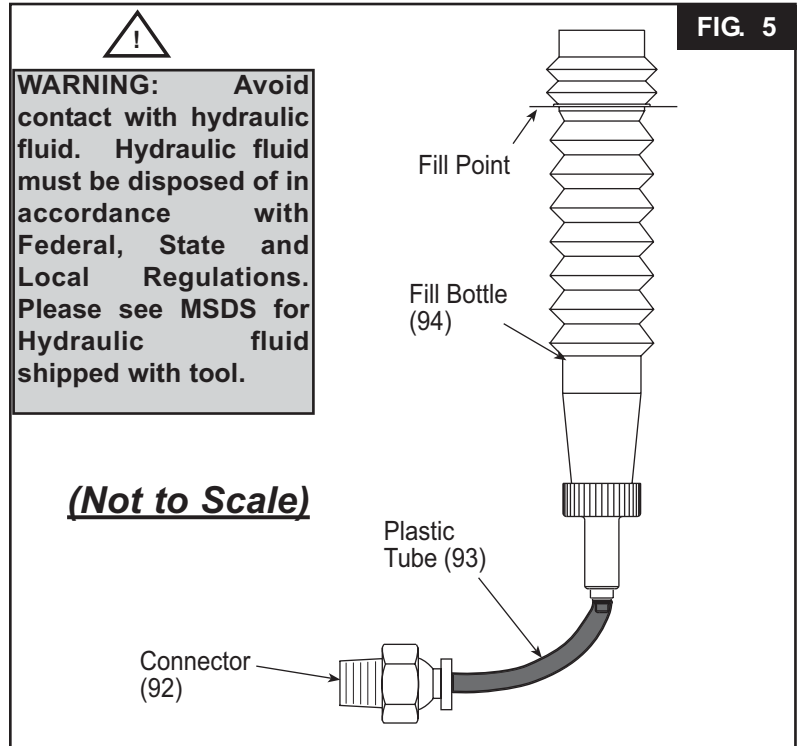

FIG. 5
2. Fill bleed Bottle (94) almost full of DEXRON III ATF or equivalent and secure Bottle cap. (Fig.5)
3. Install Plastic Tube (93) and Connector (92) on tip of Bottle Cap.